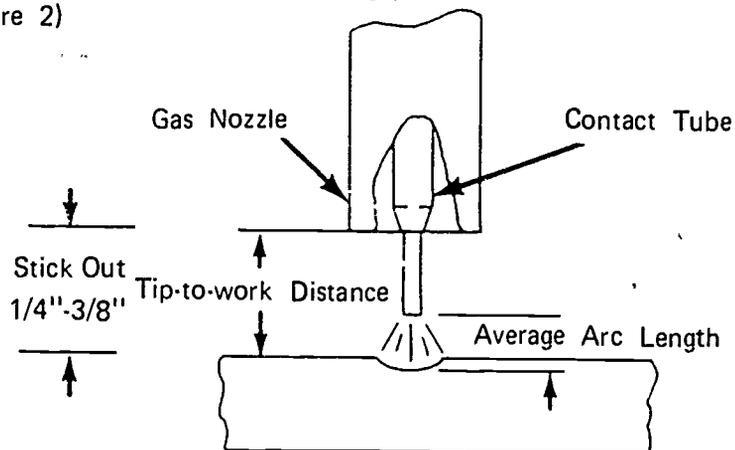

FIGURE 2
- D. Adjust and maintain during welding procedure a stick out of 1/4-3/8 inch (Figure 2)